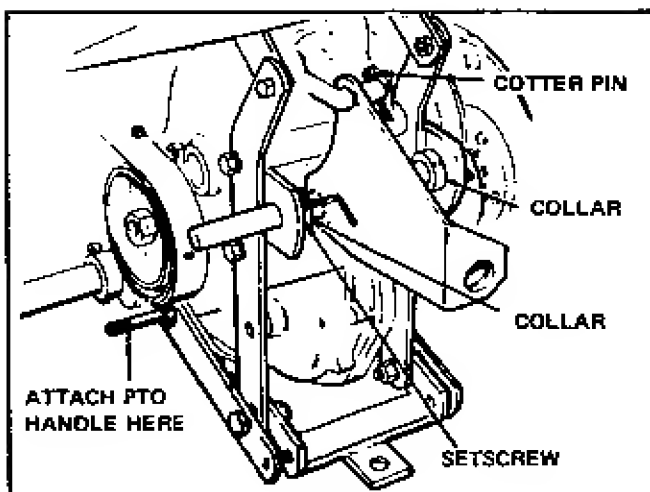

Figure 3
3. Insert right end of lift assembly into hole in right hitch member and position lift assembly so that collar is flush against right hitch member. Position collar on left side of lift assembly so it is flush against left hitch member. Tighten socket head setscrew with Allen wrench. See Figure 3.
4. Connect lift assembly to rear lift group. Secure with cotter pin. See Figure 3.